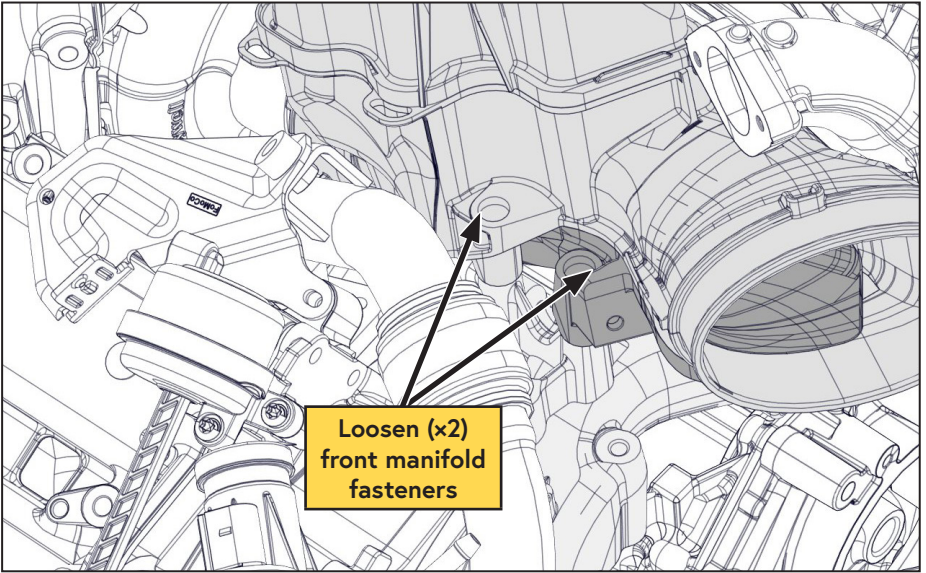

Figure 7 — Preparing for main bracket installation
- Loosen the (x2) front passenger side fasteners on the intake manifold (Figure 7).